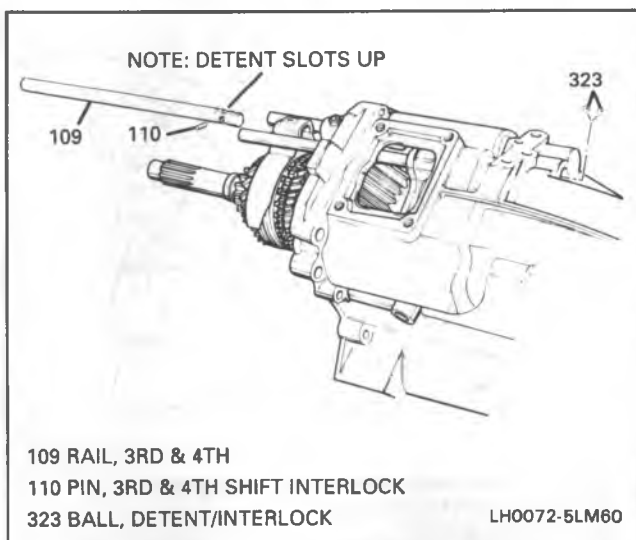

Figure 70 Interlock Balls and 3-4 Shift Rail Install
- Bolt (311) to 22 N·m (16 lb. ft.).
19. Two interlock balls (323) (Figure 70).
- Using a magnetic screwdriver or equivalent, insert one interlock ball (one at a time) through the plug hole (326).